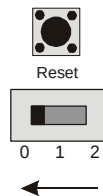

Figure 4-3
- ✓ Turn off the power as shown in Figure 4-3.